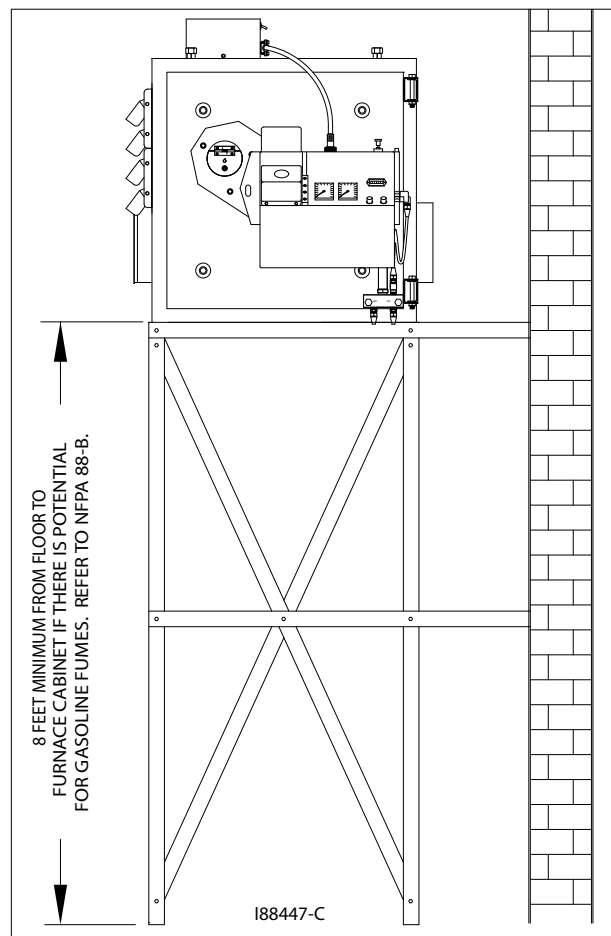

Figure 4D - Furnace Installed on Raised Platform
1. Refer to Figure 4D, and follow the instructions as provided in the diagram.